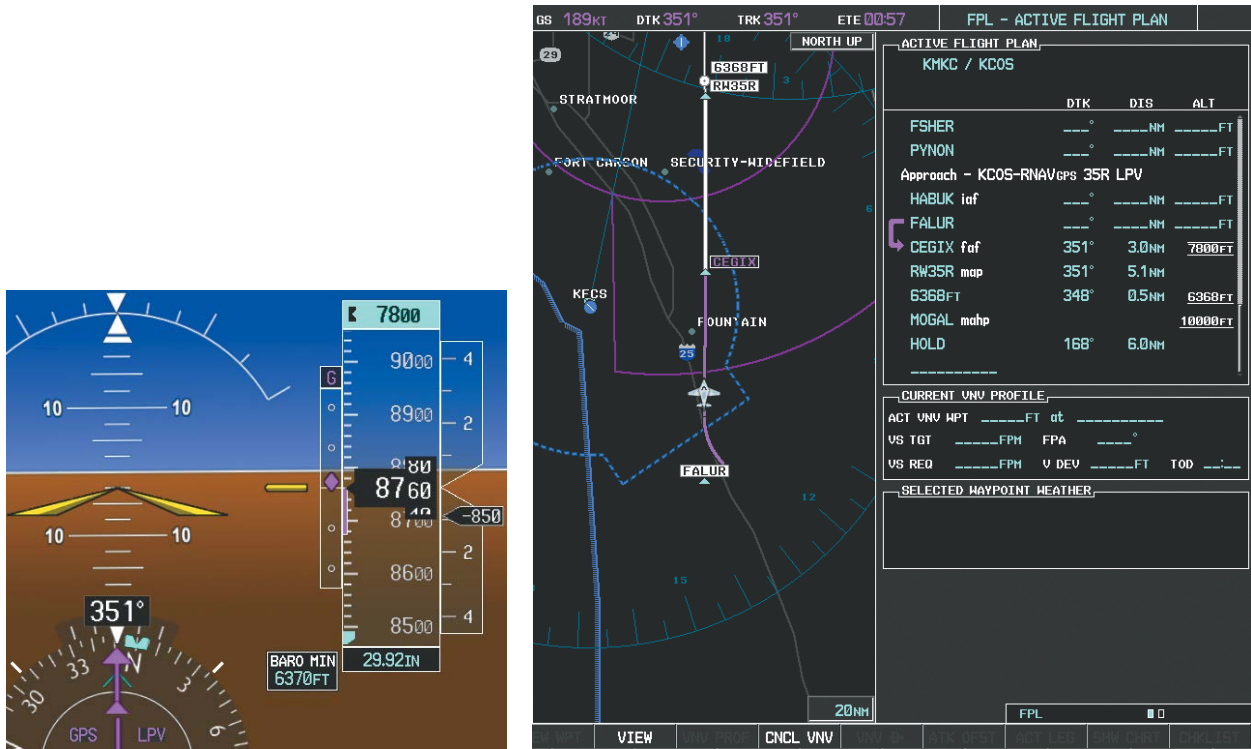

Figure 5-148 Descending to the FAF
- 23) After crossing FALUR the next waypoint is the FAF. The flight phase changes to LPV on the HSI indicating the current phase of flight is in Approach Mode and the approach service level is LPV. CDI scaling changes accordingly and is used much like a localizer when flying an ILS approach. The RVSI is no longer displayed and the VDI changes to the Glidepath Indicator (as shown in Figure 5-148) when the final approach course becomes active.
The descent continues through the FAF (CEGIX) using the Glidepath Indicator, as one would use a glideslope indicator, to obtain an altitude "AT" 7,800 feet at the FAF. Note the altitude restriction lines over and under (At) the altitude in the 'ALT' field in Figure 5-148.